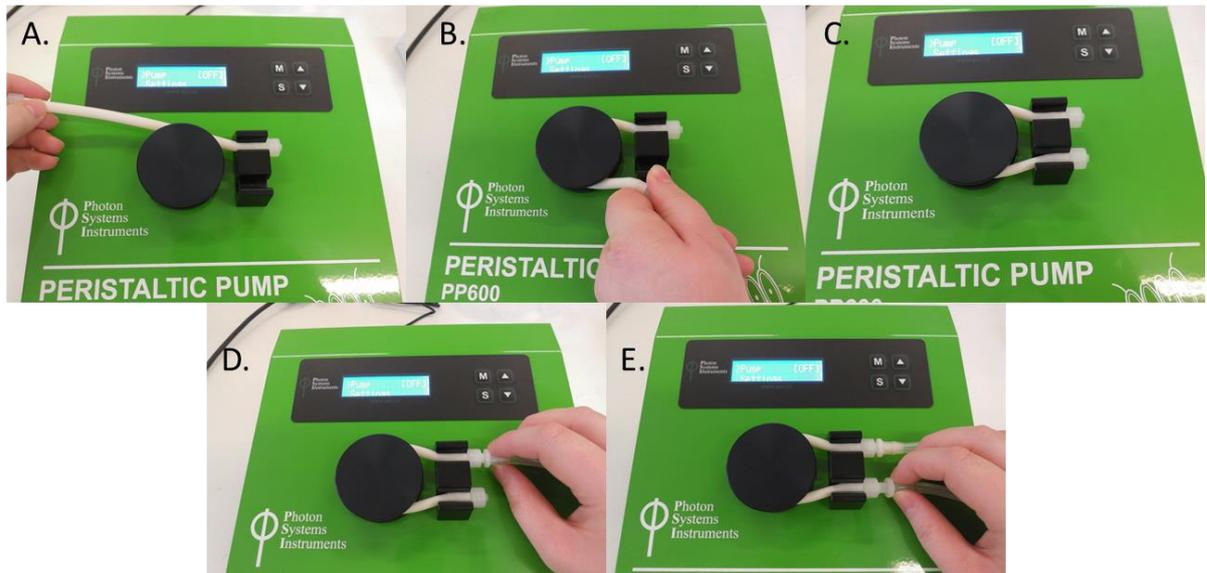

Fig. 5 Assembly of the peristaltic pump.
- Insert one end of the tube in the holder and wind the tube as shown in the figure below around the rotor (Fig. 5 A, B, C). Place the second end of the tube into the holder (Fig. 5 C). Ensure that the end of the tubing is pushed all the way to the end of the Luer Lock fitting. If this is not done small air leak may occur resulting in the pump not working properly.
- Attach provided female Luer Lock connector to the silicone tube and connect it to the peristaltic pump as shown in Fig. 5 D, E. Again, ensuring that the tubing is pushed all the way to the end of the Luer Lock connector.